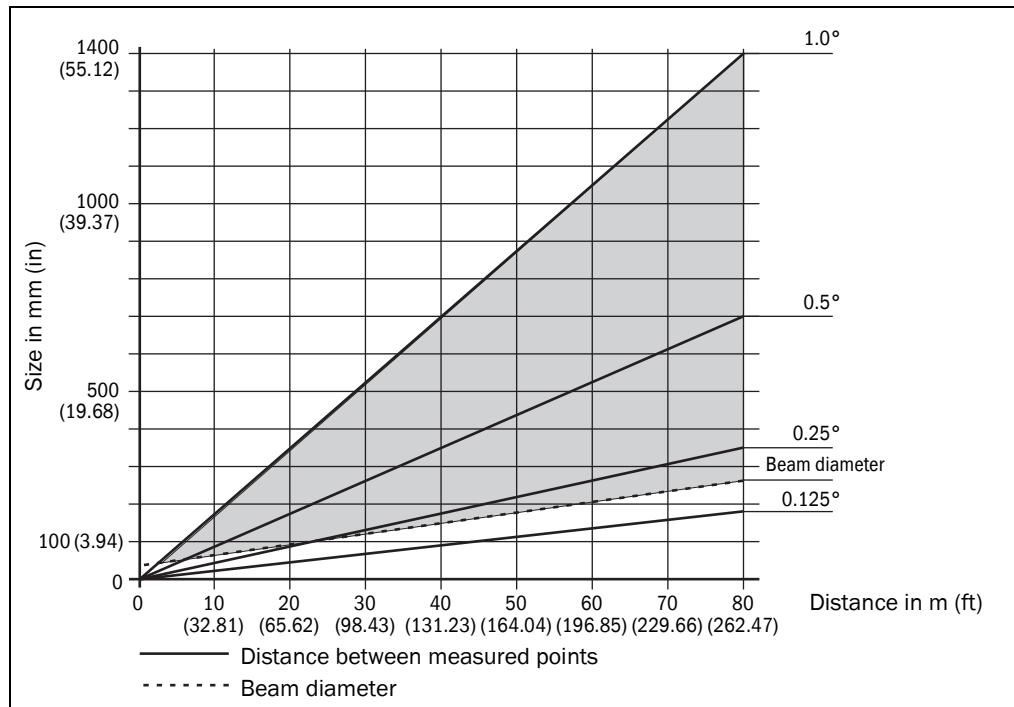
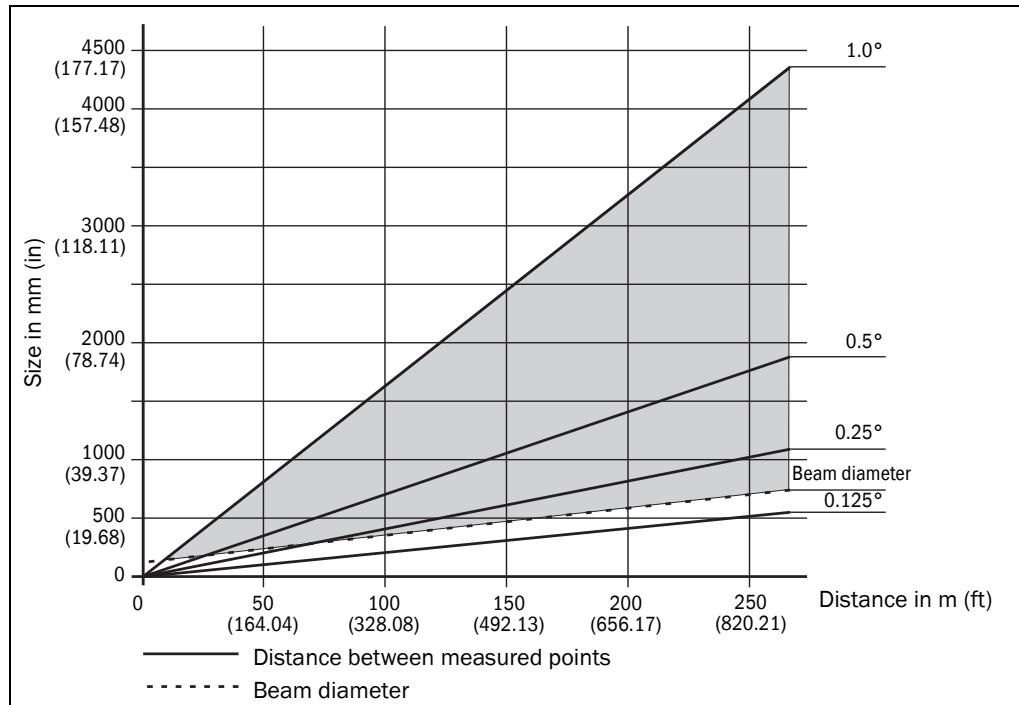

Fig. 12: Beam diameter and distance between measured points at 0 to 80 m (0 to 262.47 ft)
Fig. 13: Beam diameter and distance between measured points at 0 to 250 m (0 to 820.21 ft)
The two diagrams in Fig. 12 and Fig. 13 show the beam diameter and the distance between the measured points as a function of the distance from the LD-LRS.
Example for angular resolution of 0.125° in Fig. 12
Example for angular resolution 0.5° in Fig. 13
- For the beam diameter and distance between the measured points as a function of the distance from the LD-LRS, see the diagrams in Fig. 12 and Fig. 13.